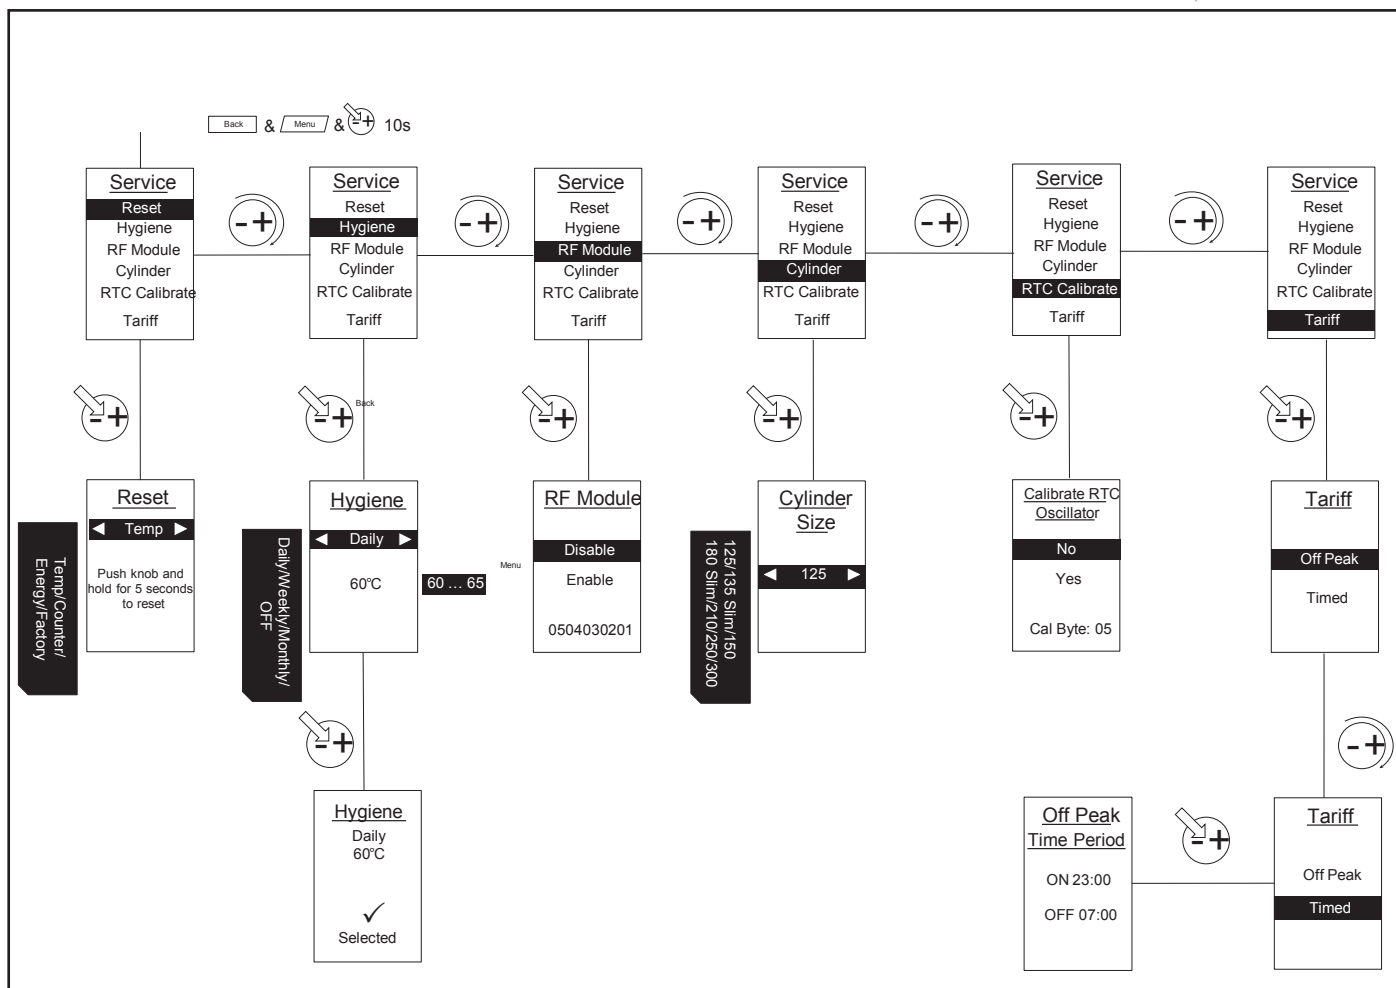

Figure 12: Service Menu for Factory Reset and Communications Set Up
- Hygiene mode can be set to either Daily, Weekly, Monthly or Off temperature for hygiene mode operation can then be set between a range of 60-68°C (see Figure 12 for how to access the hygiene function).
The water can be controlled by the utility via the RF module installed. Where this communication mode is not available the unit can be operated in standalone mode (i.e. when communications with the utility are cut off, the cylinder operates in standalone mode). In this mode the heater tries to achieve 60°C at T1 and tries to maintain this throughout the day. The communications of the appliance can be changed as shown in Figure 12.
- Select using the selector dial if you want to reset the temperature log, the energy log or the full system to the factory defaults. Once the required option is highlighted press and hold the selector dial for 5 seconds (see Figure 12 for how to access the reset function).